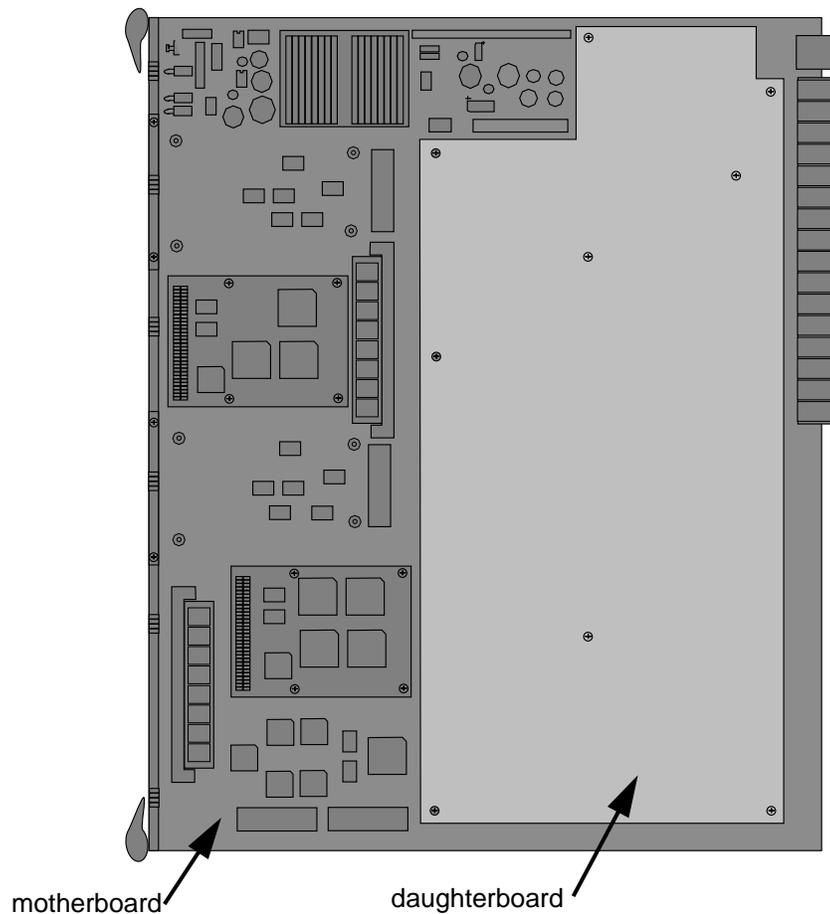

Figure 2-1. The 9A426-02 Module's two major circuit boards
The 9A426-02 Module has two major circuit boards on which components are attached (see Figure 2-1). The module's base-level circuit board is known as the motherboard. The module's second-level circuit board is known as the daughterboard. The removable daughterboard attaches to the motherboard's connectors and standoffs. Both the motherboard and the daughterboard contain components that are accessible to the user.
1. Place the module (component side up) on a non-conductive, flat surface. Position the module so that the module's front (faceplate) is to the left and the module's back (backplane connectors) is to the right. The daughterboard abuts the backplane connectors (see Figure 2-1).